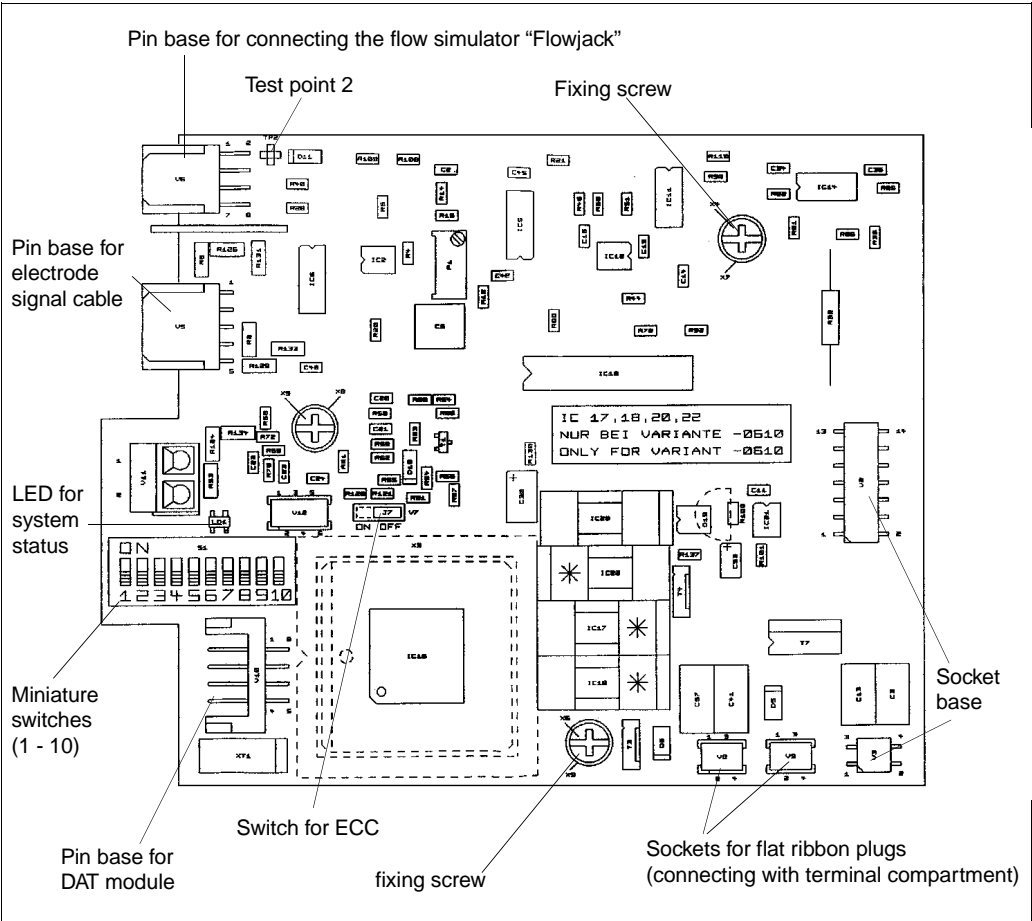

Fig. 46
- An LED is also situated on the amplifier board of the Promag 31 (see Fig. 46). This LED is always lit as long as the measuring system is operating correctly. In case of error the LED is flushing, thus indicating an error. If the LED is neither lit nor flashing there is a power supply breakdown.
6. Remove the cable board of the screened signal cable from the amplifier board (Fig. 46: V5).
9. Remove the ribbon cable plug (connection cable to the connection terminal area) from the amplifier board (Fig. 46: V8, V9).
11. If necessary, remove the DAT module from the pin strip (Fig. 46: V10) on the amplifier board.